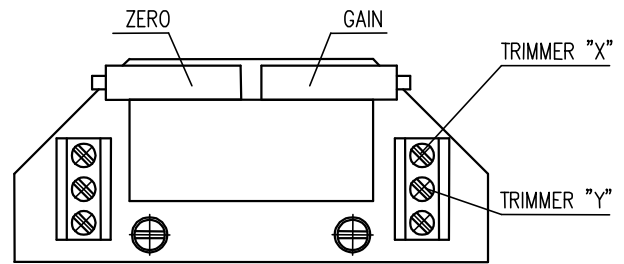

Fig. 6
EPV – 3-wire version (Fig. 6, 6a)
- Adjust the resistive transmitter according to the previous chapter. The resistance is to be metered on the terminals **X-Y**, resp. **0%-100%** (Fig. 6, 6a). The used transmitter resistance is **2000 W or 100 W**.